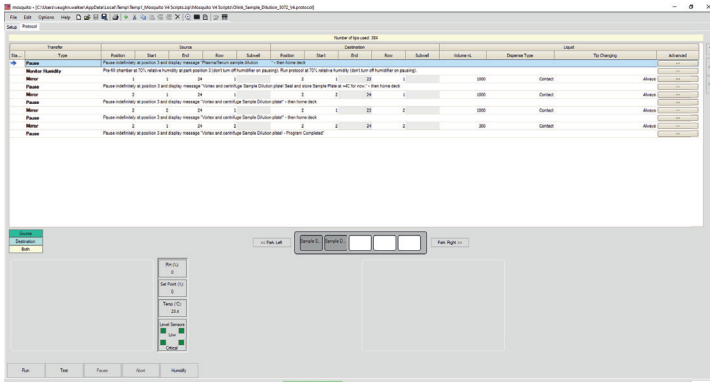

Figure 5. Pop-up window during Mosquito dilution protocol.
7. When the Mosquito® protocol is paused and a pop-up window appears on the screen (Figure 5), remove the Sample Source Plate and the Sample Dilution Plate from the Mosquito® deck and from the magnetic clamp boosters.